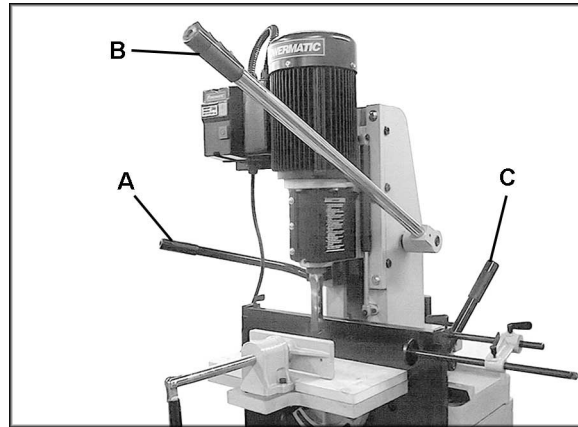
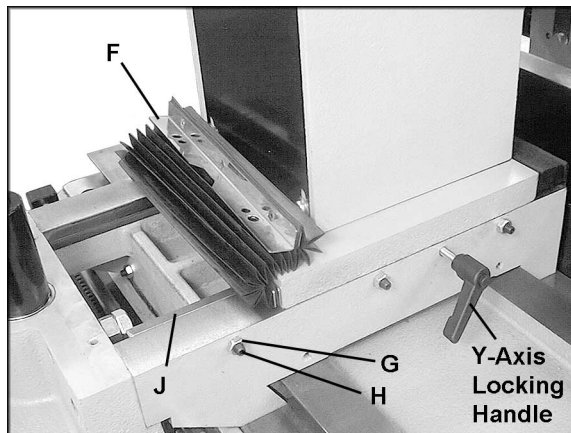

Figure 12
Figure 18
Use the handle (A, Figure 12) to move the head right or left. The lateral stops should be set in accordance with the length of the mortise cut (see "Setting Lateral Stops").
Handle B, Figure 12.
Loosen the Y-Axis locking handle (shown in Figure 18) and move the handle (C, Figure 12).
NOTE: When making lateral cuts the Y-Axis locking handle (Figure 18) should be tightened.
1. Remove the two screws on the pleated dust cover (F, Figure 18) and move the dust cover out of the way.
2. Loosen the three hex nuts (G, Figure 18) with a 10mm wrench.
3. Turn the three set screws (H, Figure 18) with a 3mm hex wrench, until play is eliminated on the gib (J, Figure 18).
4. Re-tighten the three hex nuts (G, Figure 18)
5. Re-install the pleated dust cover (F, Figure 18) before operating.